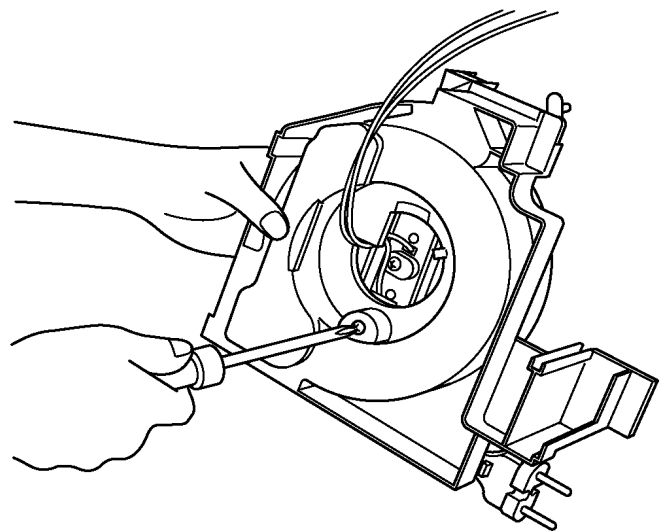

Fig.17
4. Remove the screw at the center to separate the cord reel ass'y from the body partition. (Fig.17)
1. Install the cord reel ass'y on the body partition, using the screw at the center. (Fig.17)